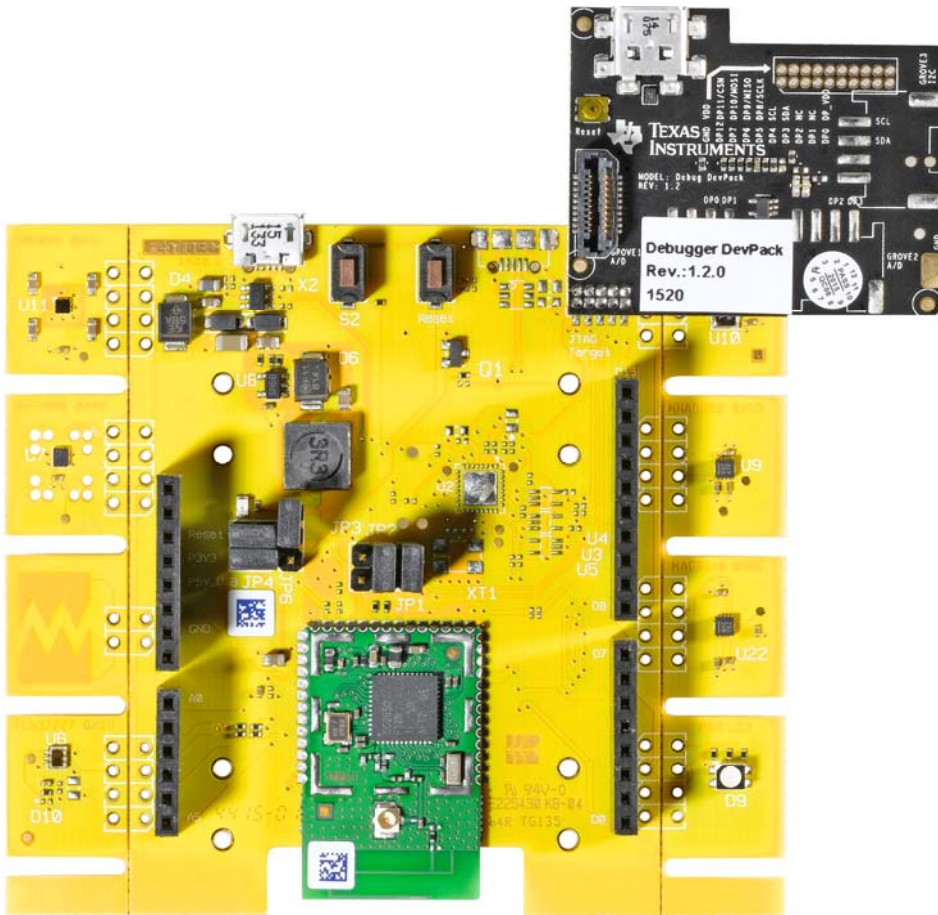

Figure 7: View of the phyNODE with attached Debugger
- Attach the XDS110 Debug adapter to the phyNODE board as shown in Figure 7.